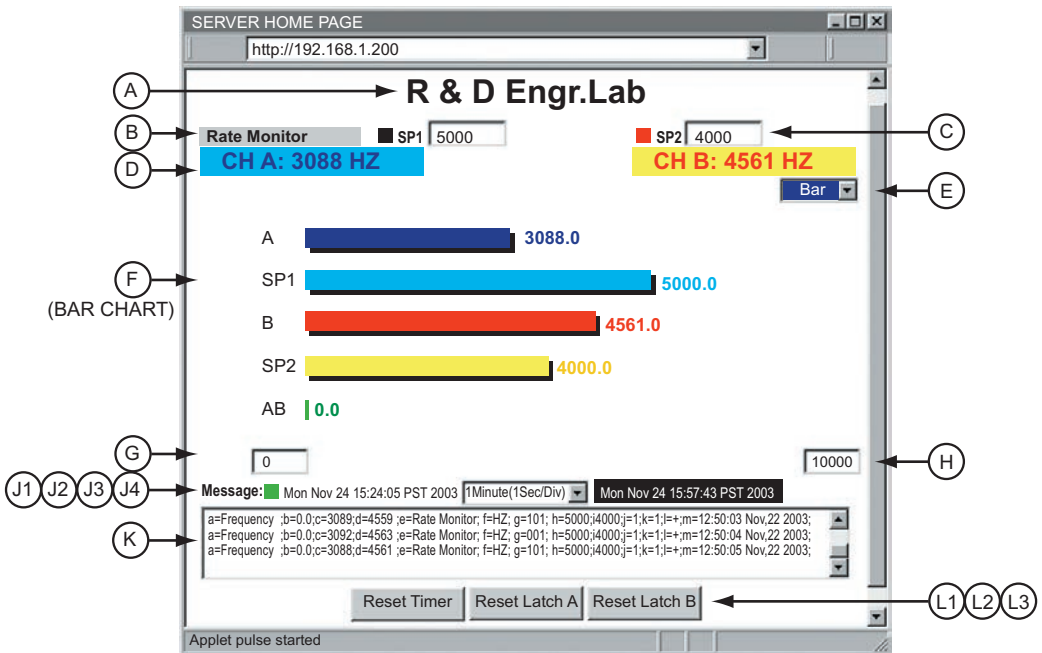

Figure 4.8 Chart Descriptions
- E) *Chart* Option Pull-Down Menu, which allows users to select *Bar* chart type **Figure 4.8** or *Line* chart type **Figure 4.9**.